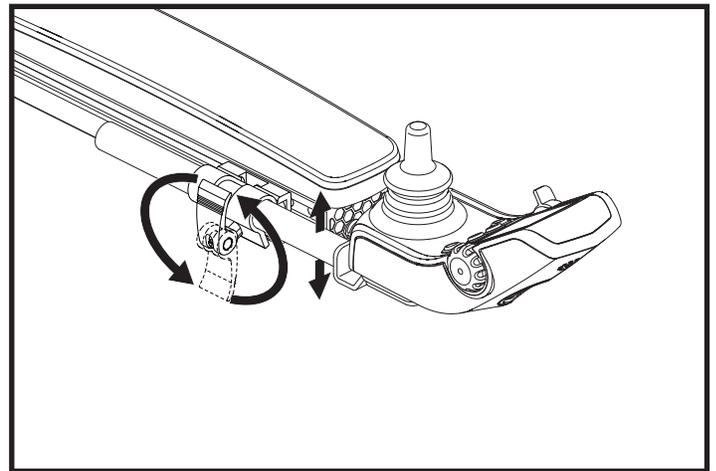

Figure 19. Controller Height Adjustment (Flip-up Armrests)
3. Flip and then rotate the release lever to loosen the clamp. **See figure 19 or 20.**